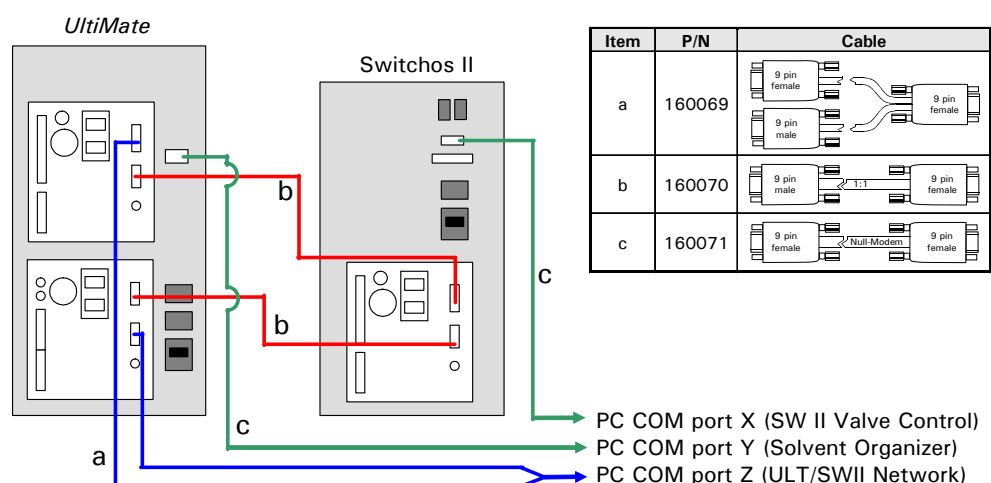

FIGURE 2-2 Setting up the RS-232 Network Connections
- Connect the RS-232 1 connector of the Switchos loading pump, the RS-232 2 connector of the UltiMate UV Detector and the COM port of the PC using the Y-cable (item a, FIGURE 2-2).
- Connect the RS-232 2 connector of the Switchos loading pump and the RS-232 1 connector of the UltiMate Micropump using the Serial Communication Cable (item b, FIGURE 2-2).
Connect the COMMUNICATION port to a free COM port on the computer using the Solvent Organizer Com cable (item c, FIGURE 2-2).